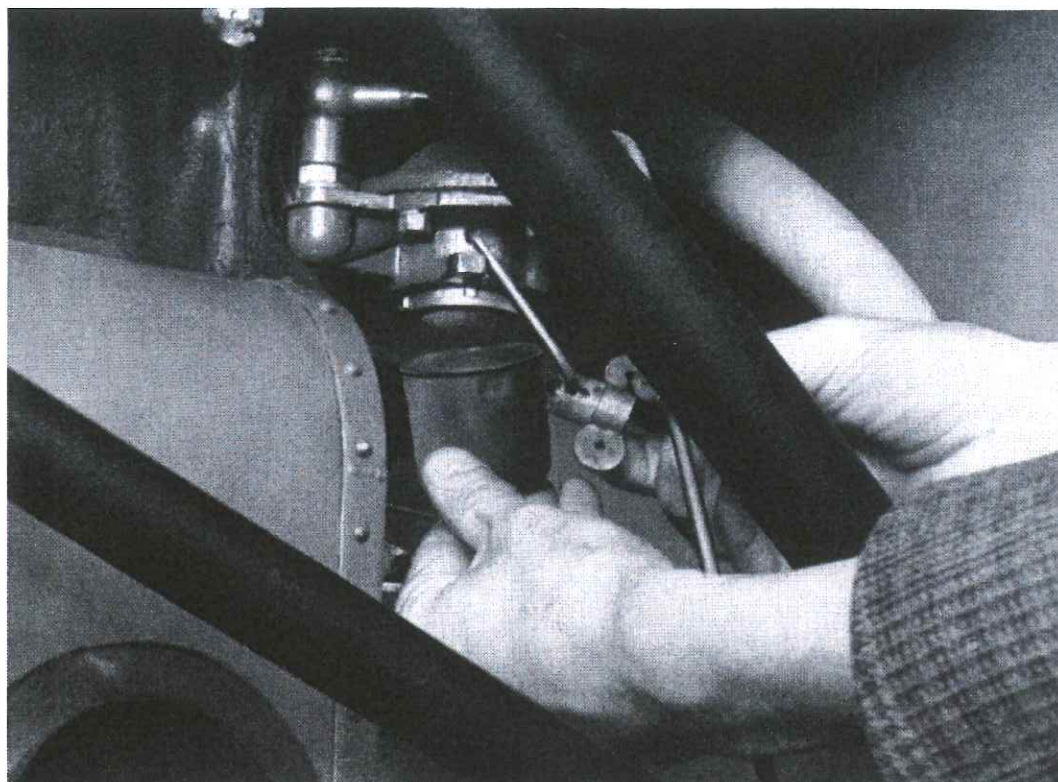

Figure 30.—Remove the petrol filter bowl and check for water.
17. Remove fuel filters and flush through (see Fig. 30).